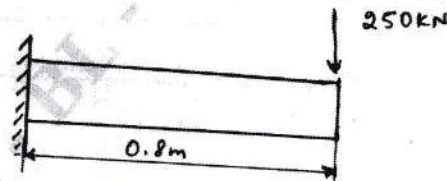

Fig Q5(b)
- b. A cantilever beam subjected to point load of 250kN as shown in Fig Q5(b). Determine the deflection at free end Take $E = 200\text{GPa}$, $I = 4 \times 10^6 \text{ mm}^4$.